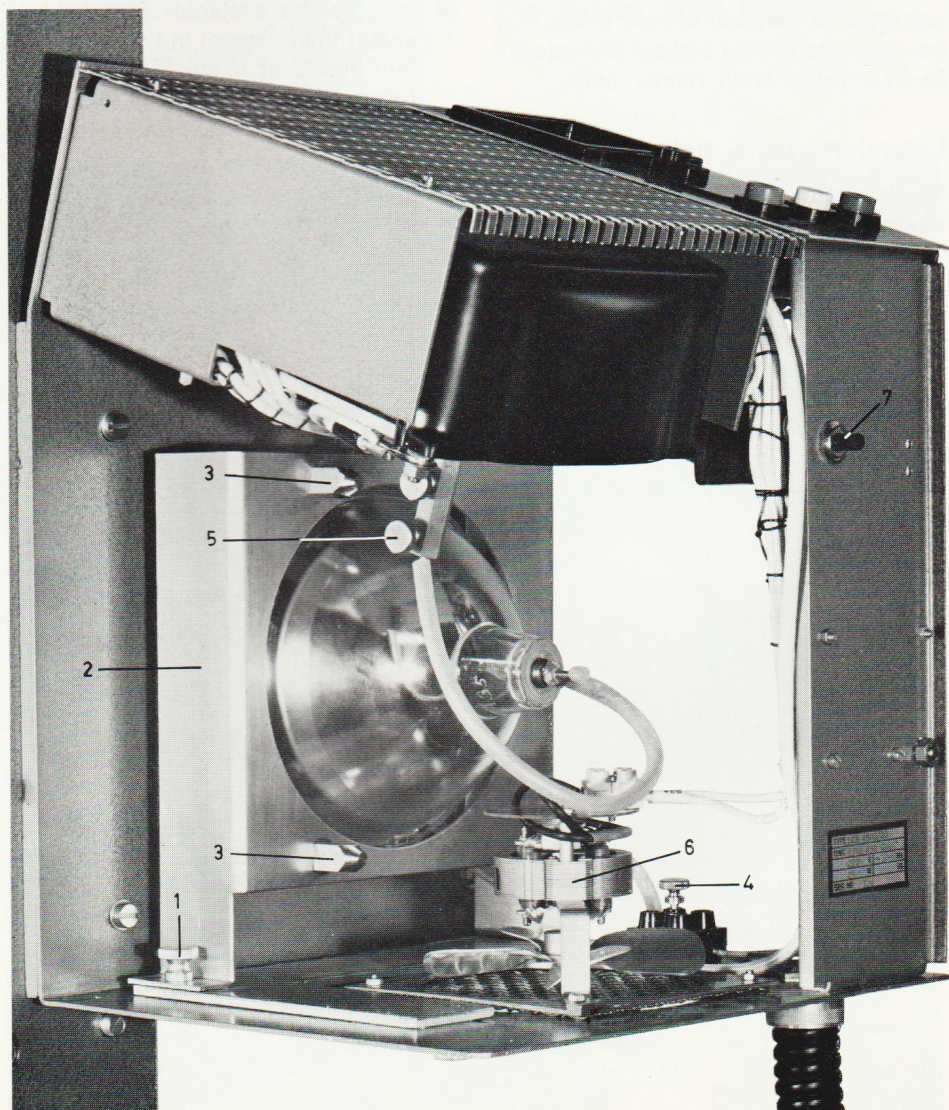
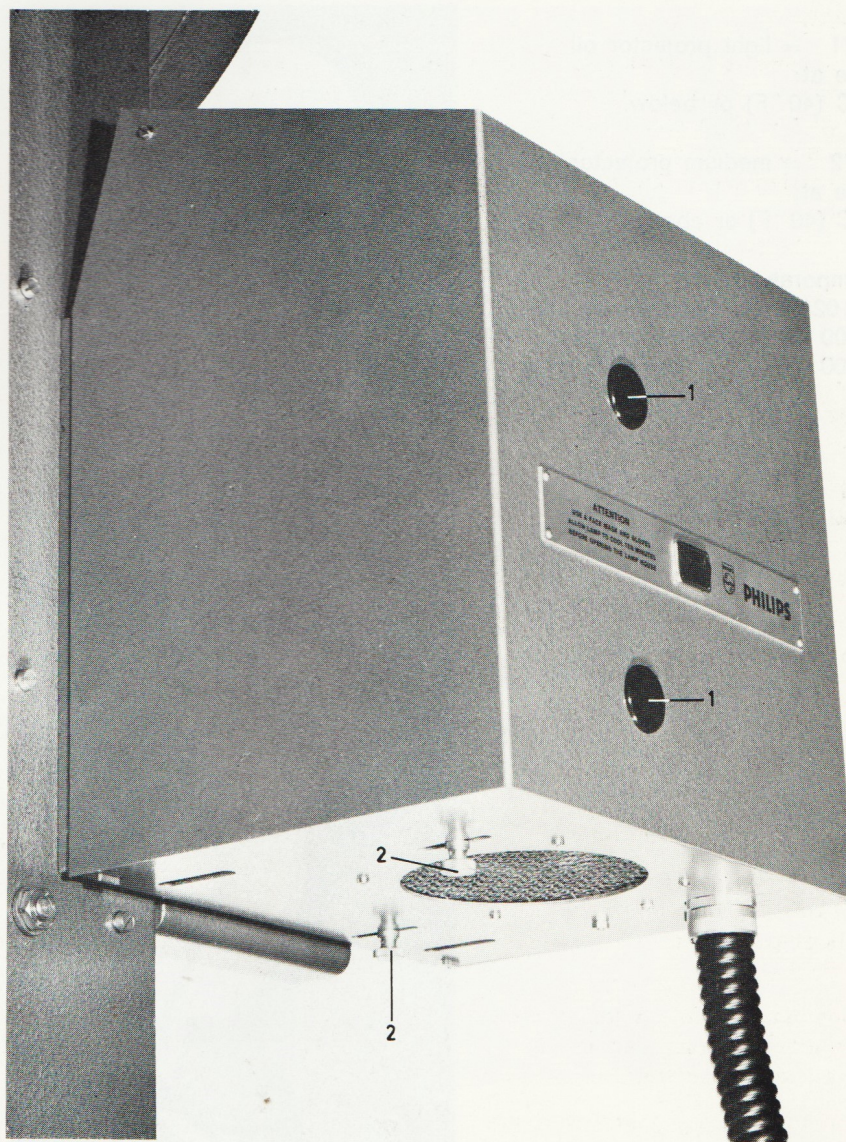

Fig. 6
Fig. 7
Replacing the Projector Lamp (Fig. 6)
Remove the plugs 1 (Fig. 7) from the lamphouse cover and insert the adjusting tools to engage the aligning bolts 3 (Fig. 6).
- Loosen the two thumbscrews 2 (Fig. 7).